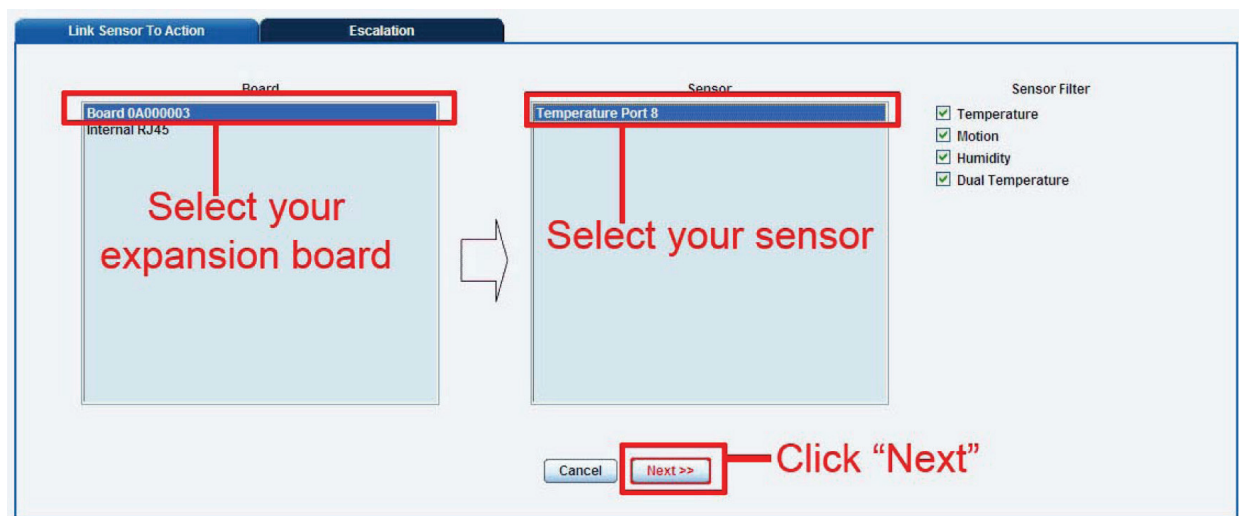

Figure 4-8. Select the expansion board, then select the sensor.
- Select the sensor and SNMP trap parameters as before. Figure 4-8 appears. Select the expansion board, then select the sensor. Click "Next."